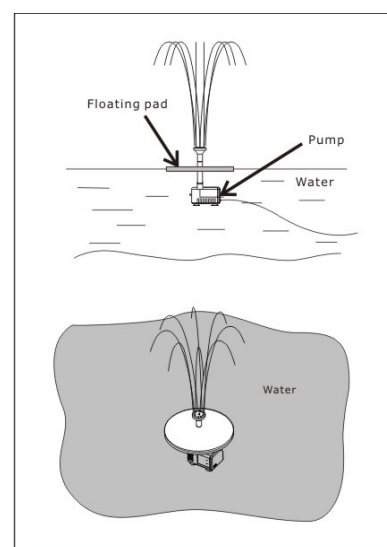

Figure 3
- b) Fit the floating pad, if desired, onto the pump extension tube and then place the floating pad supported pump on the water (refer to Figure 3).